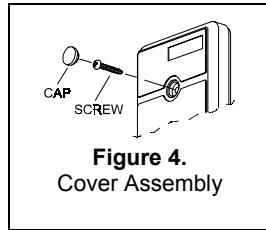

Figure 4.
Remove the screw from the front cover (Fig. 4) and separate the front cover from the base.
H. Secure the front cover with the screw and screw cap (Fig. 4).